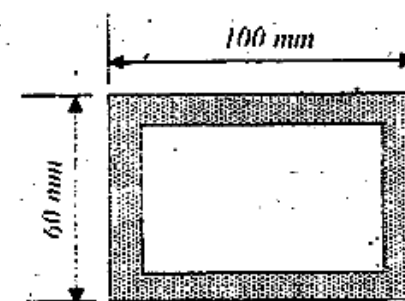

Figure-4
- (b) A hollow tube having a rectangular cross-section as shown in Figure-4, is subjected to a torque of 180 N-mm. Determine the distribution of shearing stresses in the walls of the tube, considering uniform wall thickness of 20 mm. 10